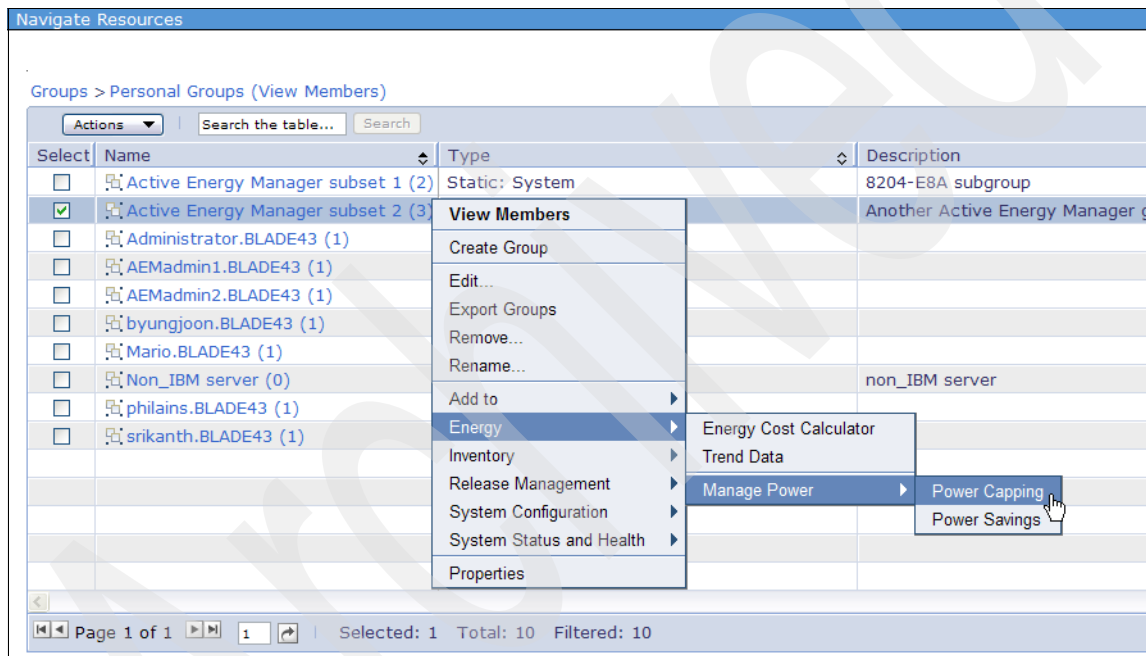

Figure 7-21 Setting a power cap for a group of power managed systems - 1
2. In the display shown in Figure 7-21, right-click your group of Active Energy Manager resources, and select **Energy** → **Manage Power** → **Power Capping**.